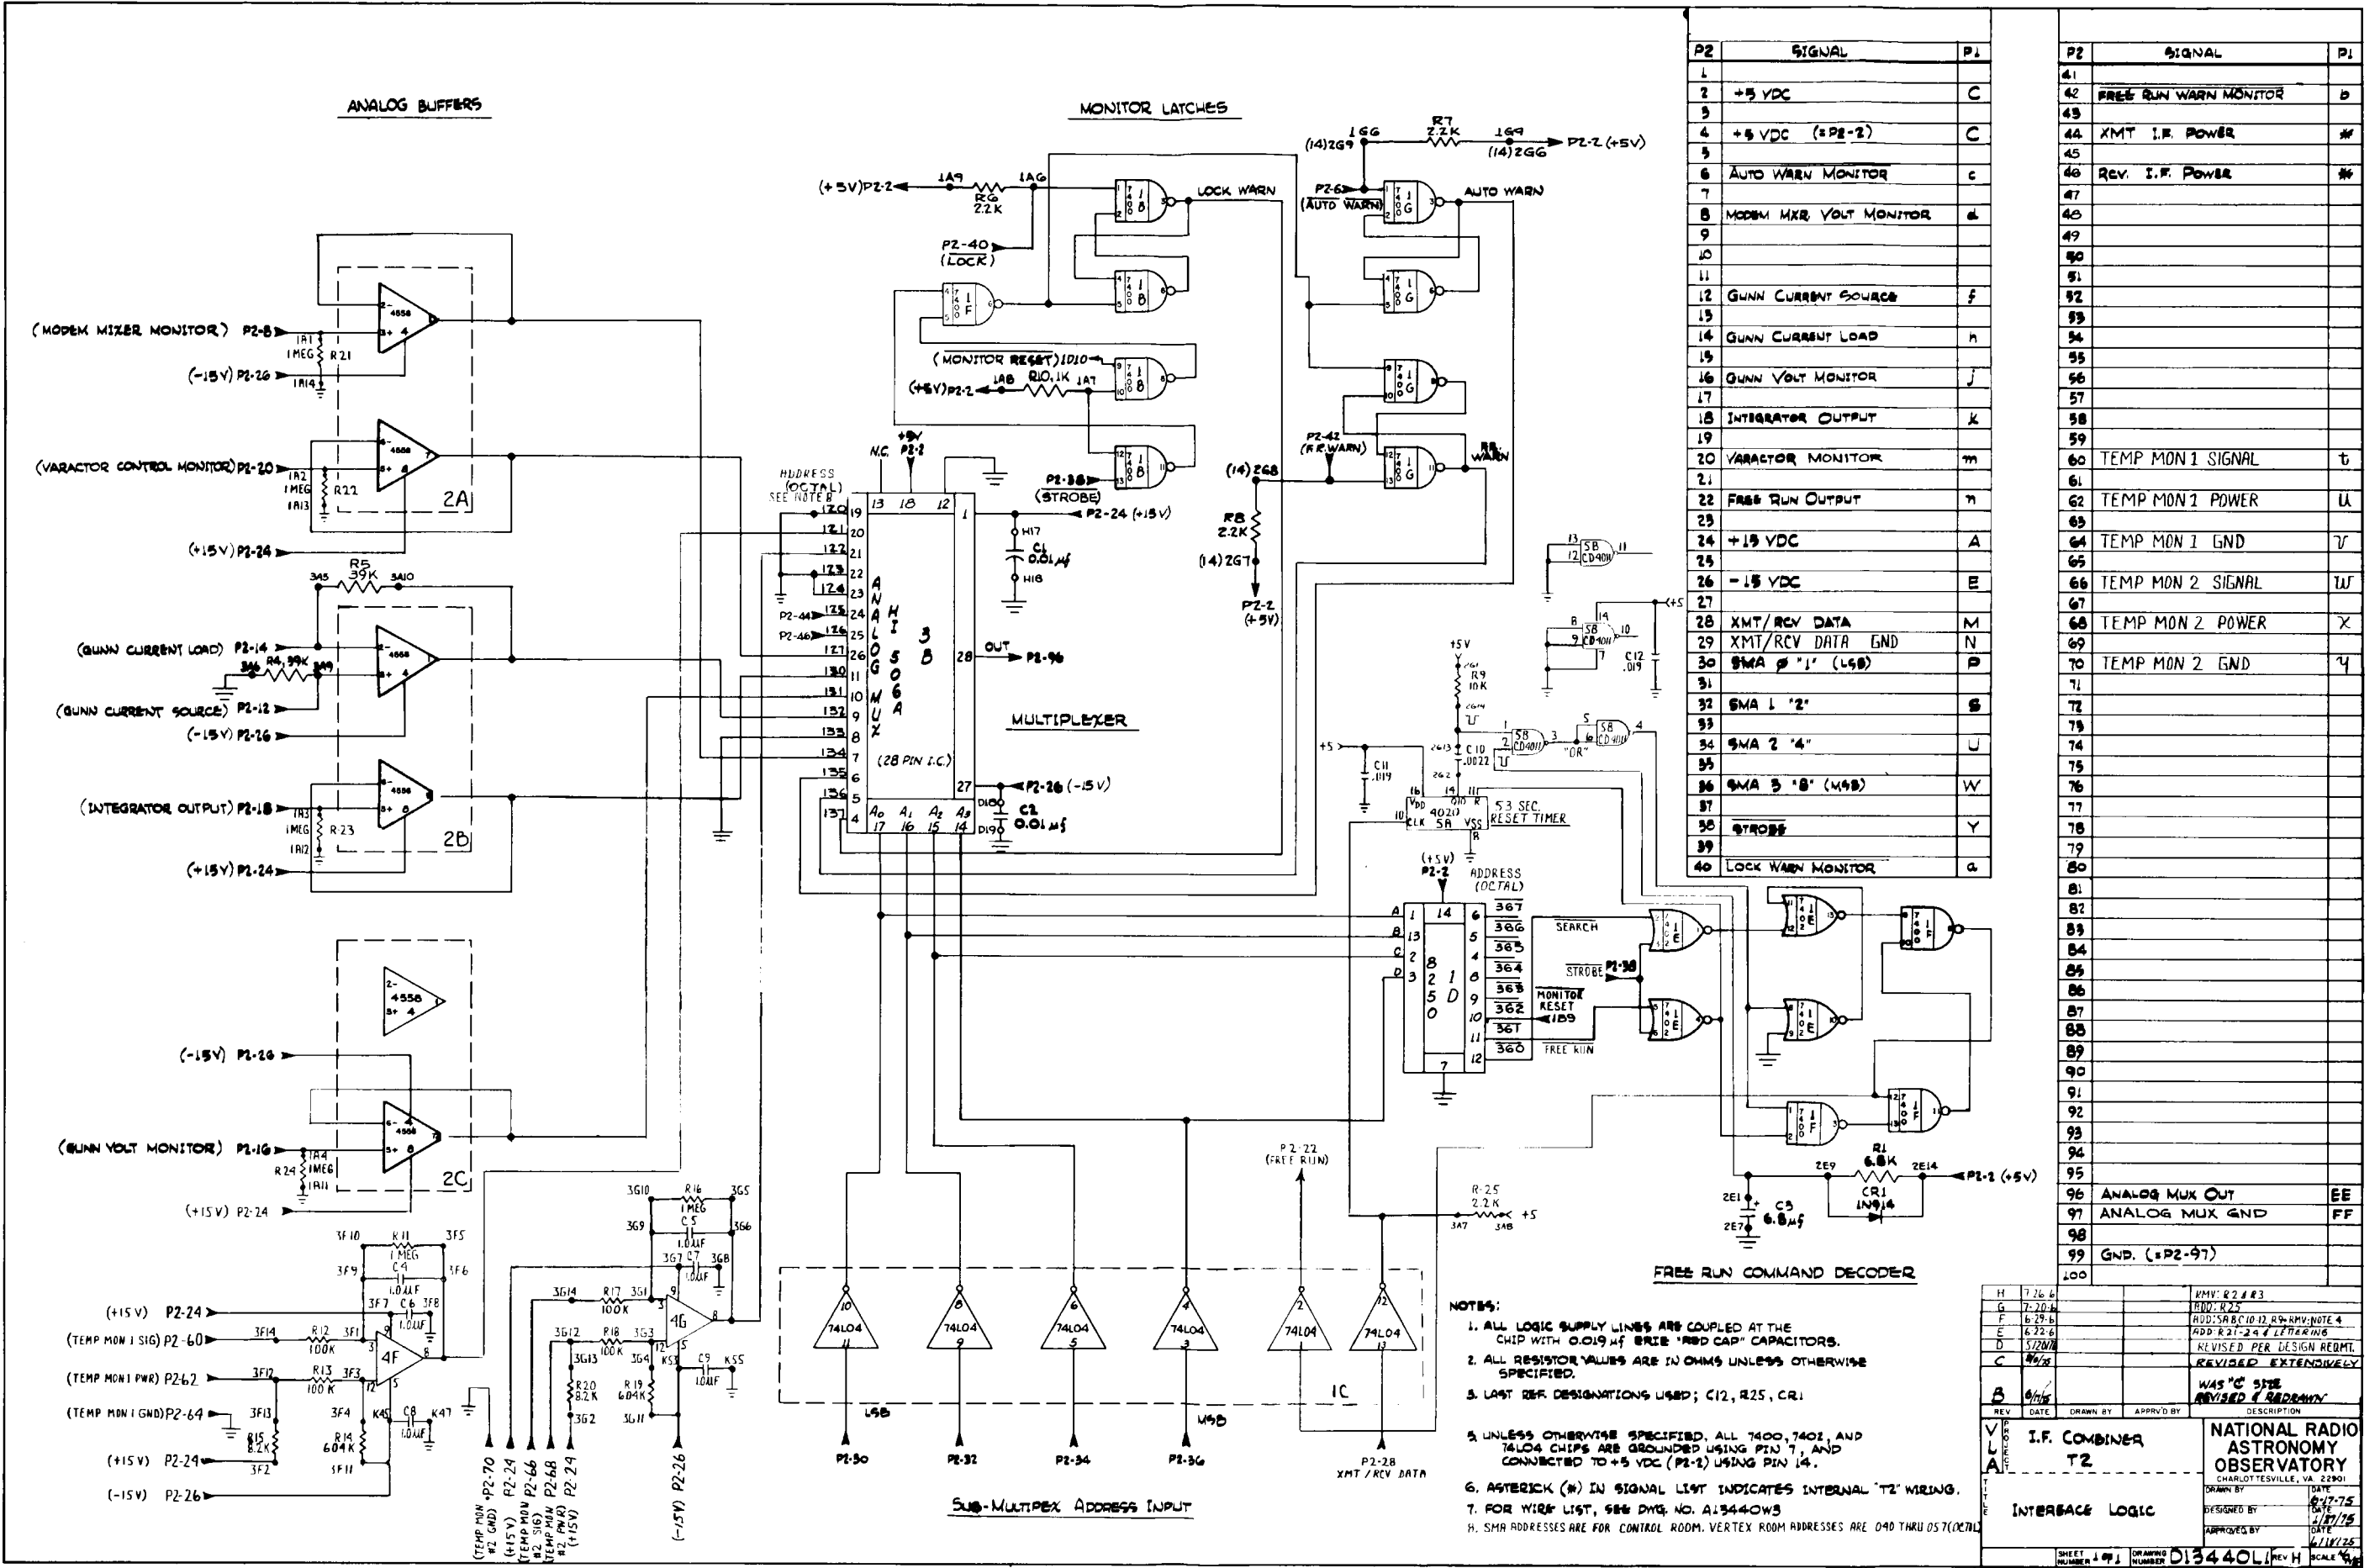

FIGURE IV-2
B. Interface Logic - Refer to Figure IV-2.